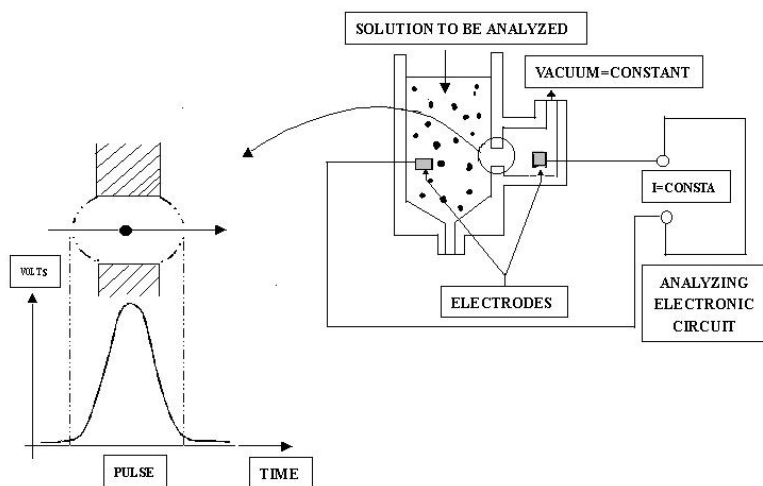

Figure 1-5
d) Treat by magnify circuit, the voltage signal is amplificatory and background noise is removed, then can receive the signal to analysis. As Figure 1-5.